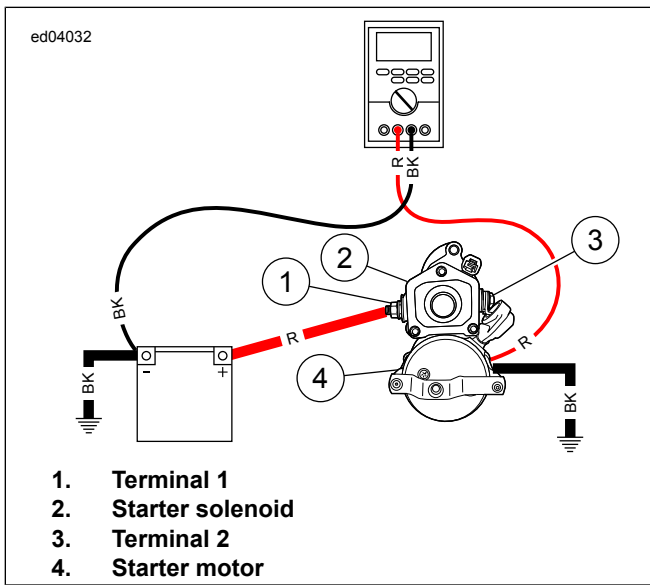

Figure 1-16. Starter Ground Circuit
3. See Figure 1-16. Move black meter lead to negative battery post and red meter lead to starter mounting bolt. Crank starter. Observe voltage drop.